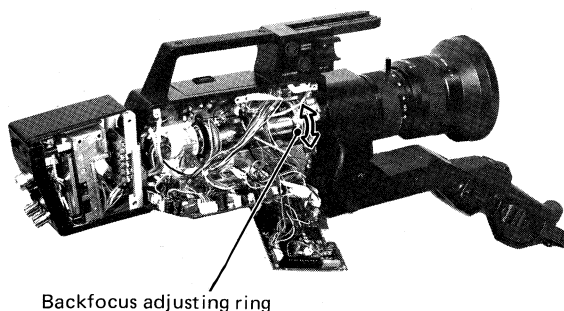

Fig. 4-2-18
- Zoom out (Wide angle) and adjust the focus by turning the backfocus adjusting ring. (Fig. 4-2-18)